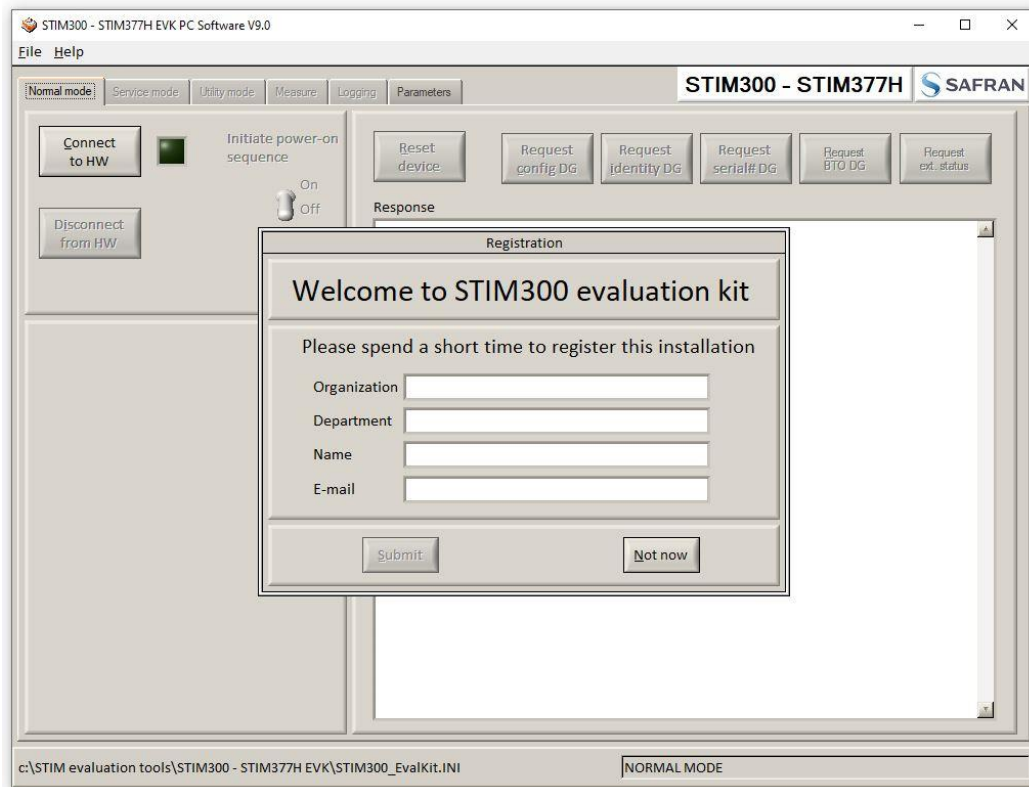

Figure 17: Welcome message and software registration
10.A green LED (Data arriving from device n) indicates that data is received from the gyro module(s). Verify the communication to module by clicking on the 'Request serial# DG' button. An example of such a result is shown in Figure 17. The system is now ready for use.